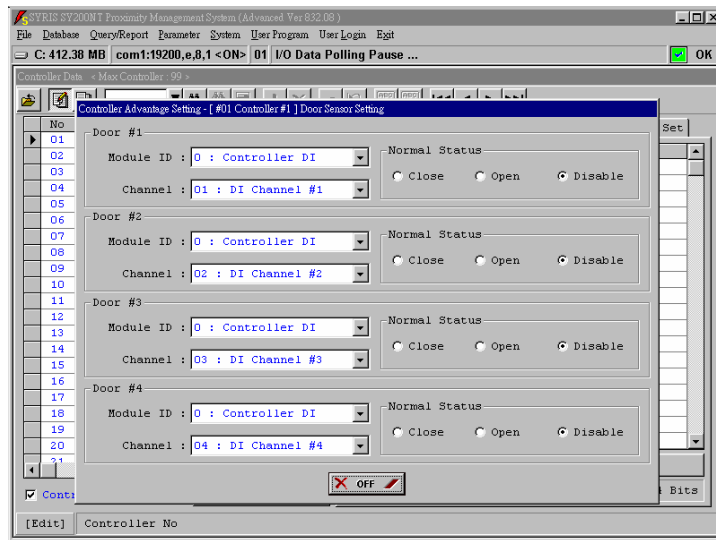

Fig.11-3 Door Sensor Setting
4. Click "Door Sensor" and wait screen display, as Fig.11-3.